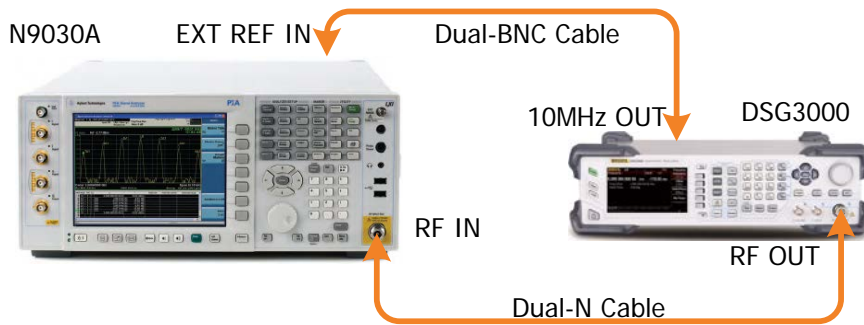

Figure 2-5 AM Internal Modulation Test Connection Diagram
1. Synchronize the DSG3000 and signal analyzer. Connect the RF output terminal of the DSG3000 with the RF input terminal of the signal analyzer as shown in Figure 2-5.